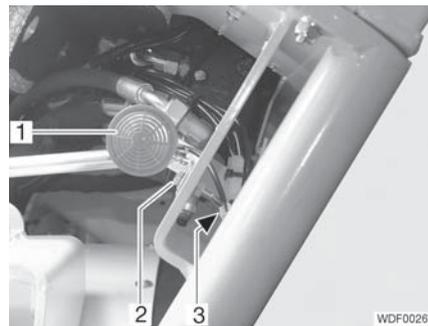

Fig. 463 Audible reverse warning device
- Unplug the plug (Fig. 463,3).
- Unscrew the screw (Fig. 463,2).
- Remove the audible reverse warning device (Fig. 463,1).
- Screw in and tighten the screw (Fig. 463,2) with the washer.
- Connect and secure the plug (Fig. 463,3).